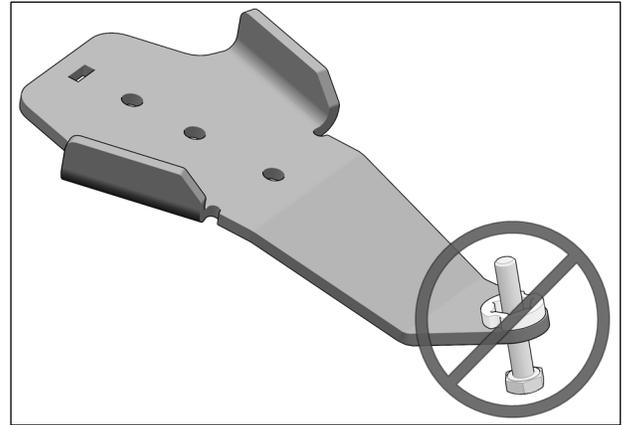

Fig. 15
**CAUTION:** Be sure that bolt is inserted in the right direction. See Fig. 15